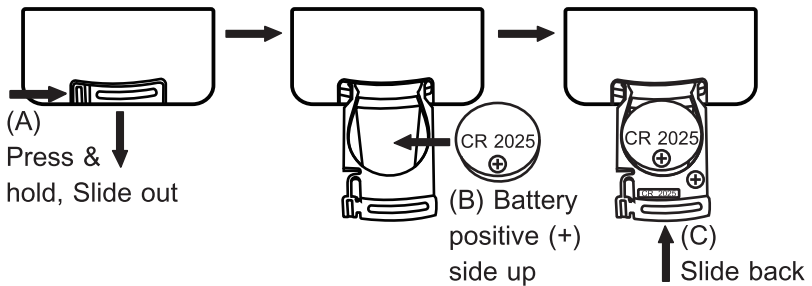

Fig. 30
4. Replacing USB Remote Battery, Fig. 30:
- (A) Press and hold the tenon on the bottom of the remote control and then slide out the battery tray.
- (B) Remove the old battery and insert the new battery in, making sure that the battery's positive (+) side is facing up.
- (C) Slide the battery tray back into the remote control until it clicks.
- (D) The remote control can function at distances of up to 5 meters. The remote control uses CR2025 lithium 3V coin battery.